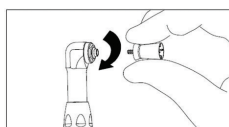

Fig 3
- Insure the rotation of the prophy cup is in a clockwise direction. Fig 3